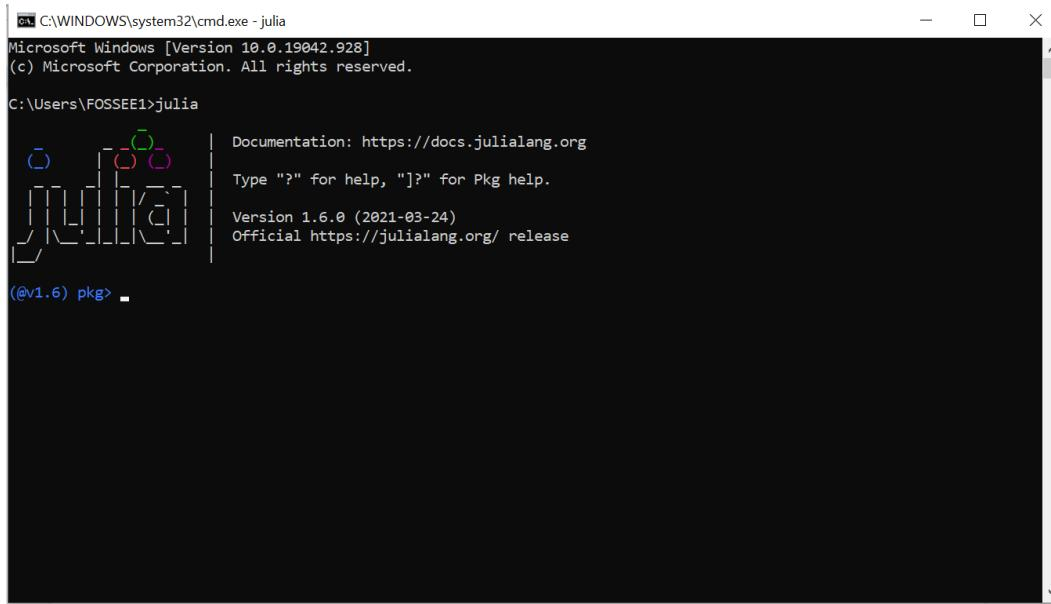

Figure 3.32: Windows command prompt to enter Pkg REPL in Julia
3. Now, we need to enter the Pkg REPL in Julia. From the Julia REPL, press `]` to enter the Pkg REPL. The moment you press `]`, you enter Pkg REPL, as shown in Fig. 3.32.